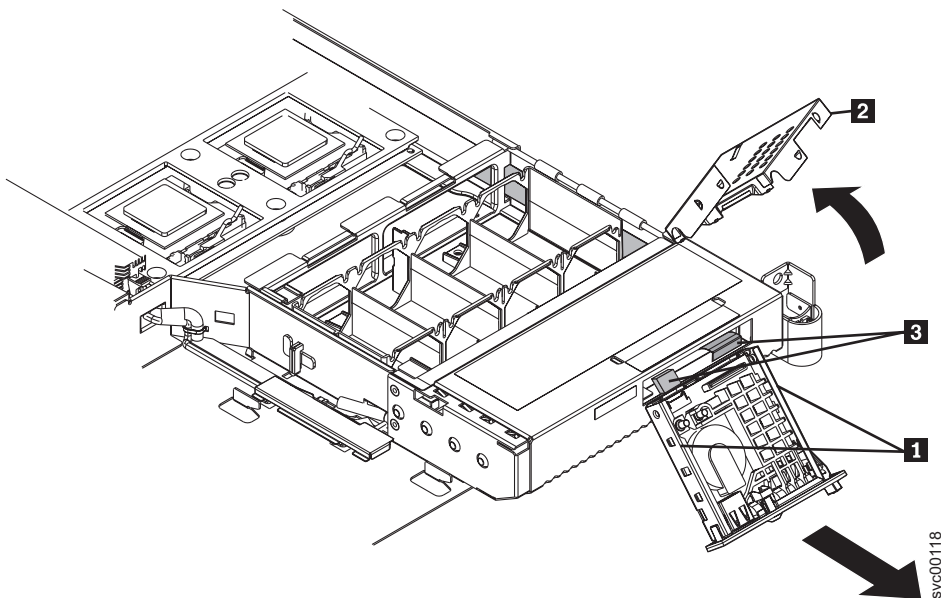

Figure 215. SAN Volume Controller 2145-8F2 with exposed operator-information panel
6. Use a small screwdriver to push in the retention springs (**1** in Figure 215) on the sides of the operator-information panel assembly.
9. Rotate the assembly cover (**2** in Figure 215) up and off of the operator-information panel assembly.
10. Unplug the two cables from the rear of the assembly (**3** in Figure 215).